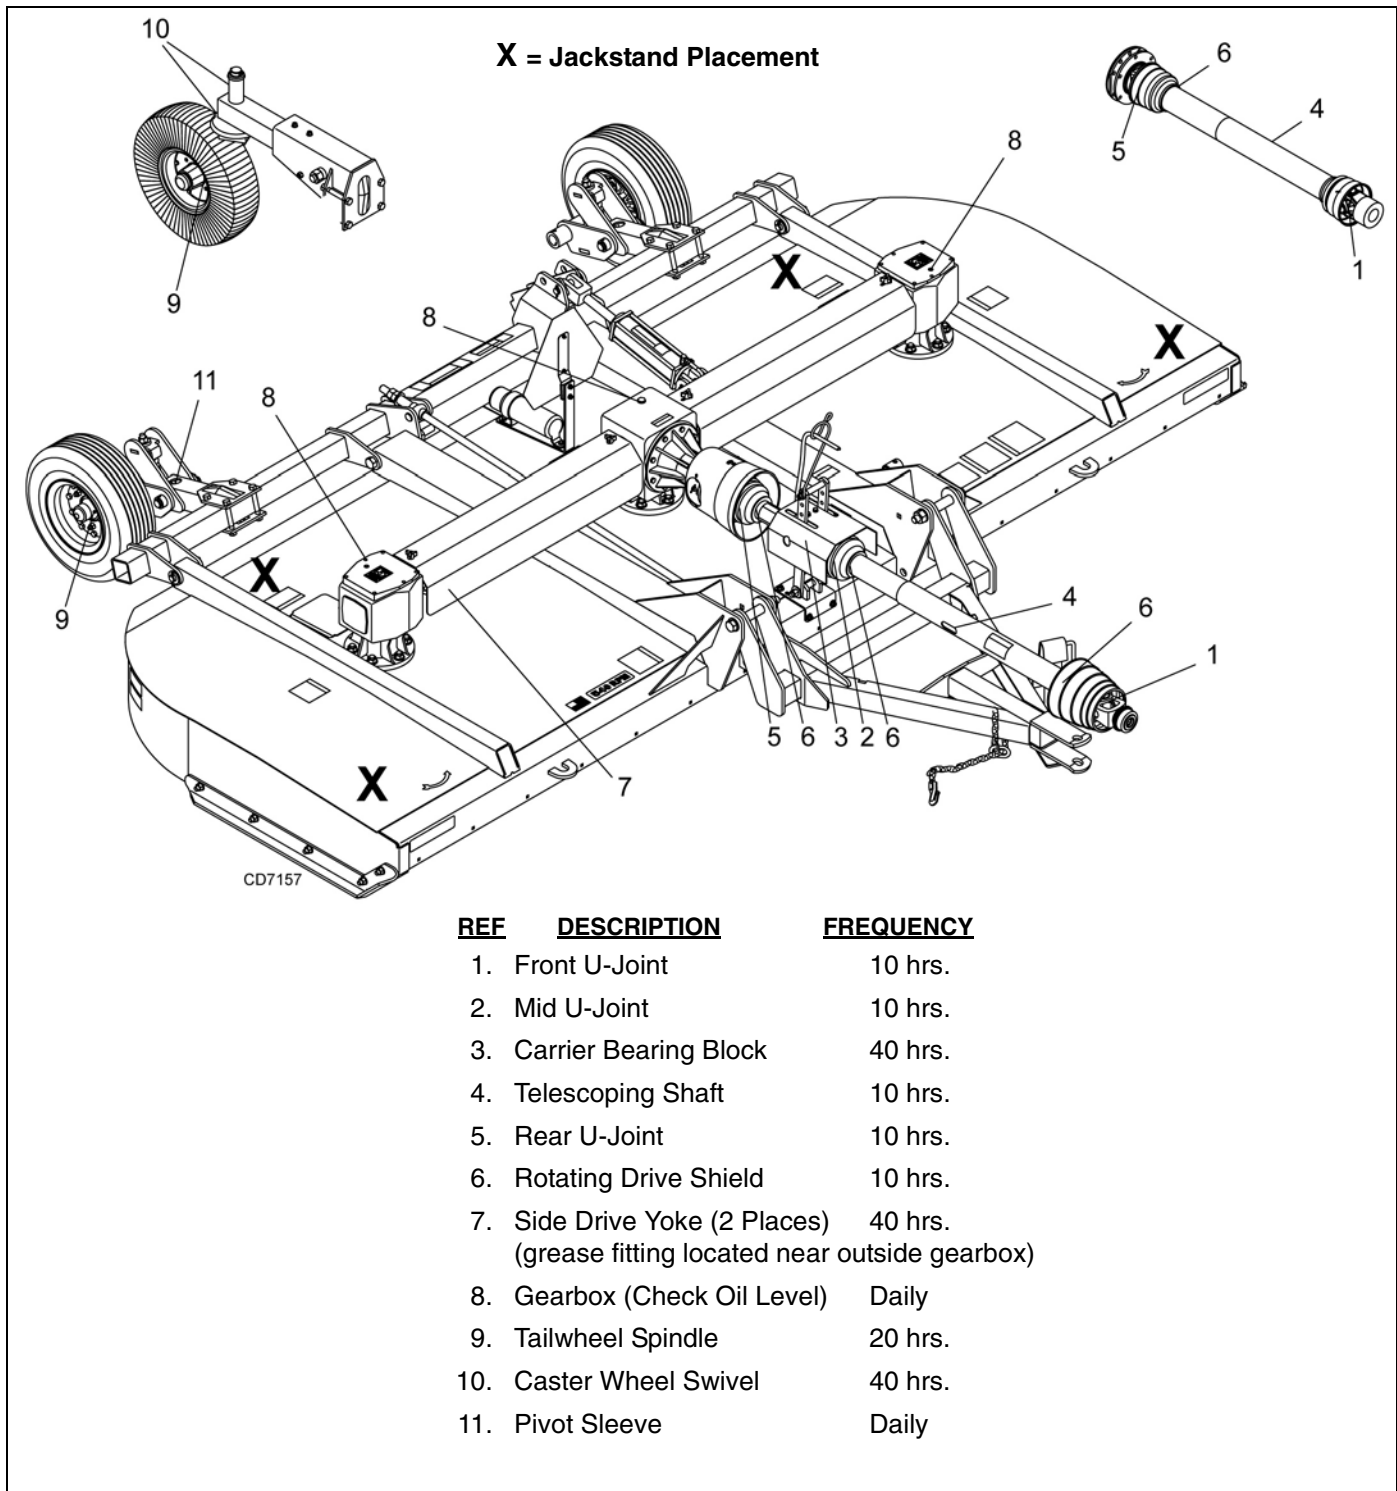

Figure 10. Jackstand Placement and Lubrication Points
1. Jackstands with a load rating of 1000 lbs or more are the only approved blocking device for this cutter. Install a minimum of four jackstands (shown by Xs in Figure 10) under the cutter before working underneath unit.
See Figure 10 for lubrication points and frequency or lubrication based on normal operating conditions. Severe or unusual conditions may require more frequent lubrication.
Driveline Lubrication (Figure 10)